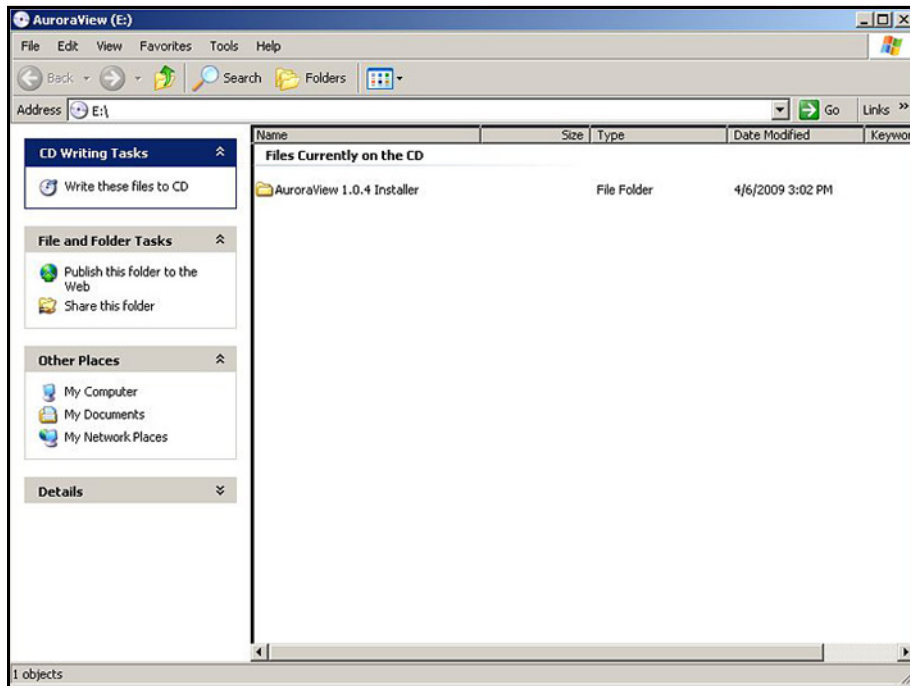

Figure 46: Initial Screen
2. The installation program should launch automatically (see *Figure 46* below). If it does not, select Start → Run → Browse.